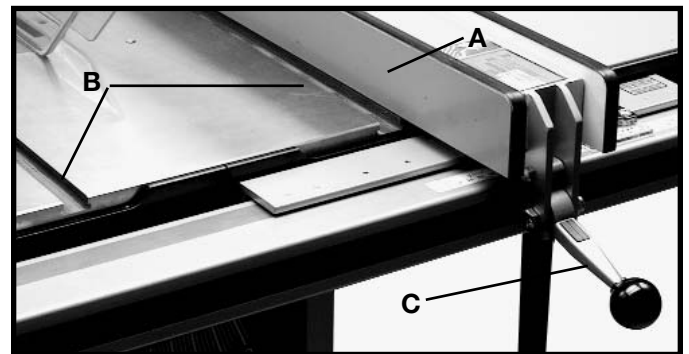
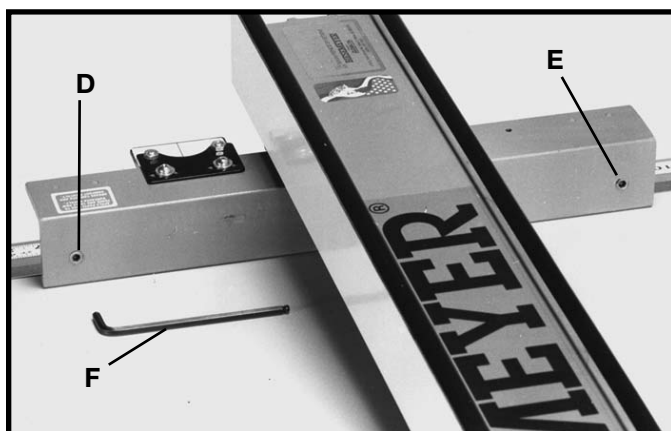

Fig. 145
Fig. 146
The fence (A) Fig. 145, must be adjusted so it is parallel to the miter gage slots (B). To check and adjust, move fence (A) until the bottom edge of the fence is in line with the edge of one of the miter gage slots as shown, and push down on the fence clamping lever (C). Check to see if the fence (A) is parallel to the miter gage slot the entire length of the table. If an adjustment must be made, lift up fence locking lever (C) and raise fence up off the guide tube, as shown in Fig. 146. Slightly tighten or loosen one of the two adjusting screws (D) or (E) Fig. 146, using a 3/16 allen wrench (F), not supplied. Replace the fence on the guide tube and check again to see if the edge of the fence is parallel with the miter gage slot the entire length of the slot. Repeat this adjustment until you are sure the fence is parallel with the miter gage slot. **IMPORTANT: VERY LITTLE MOVEMENT OF SCREWS (D) AND (E) IS NECESSARY TO ADJUST THE FENCE PARALLEL WITH THE MITER GAGE SLOT.**